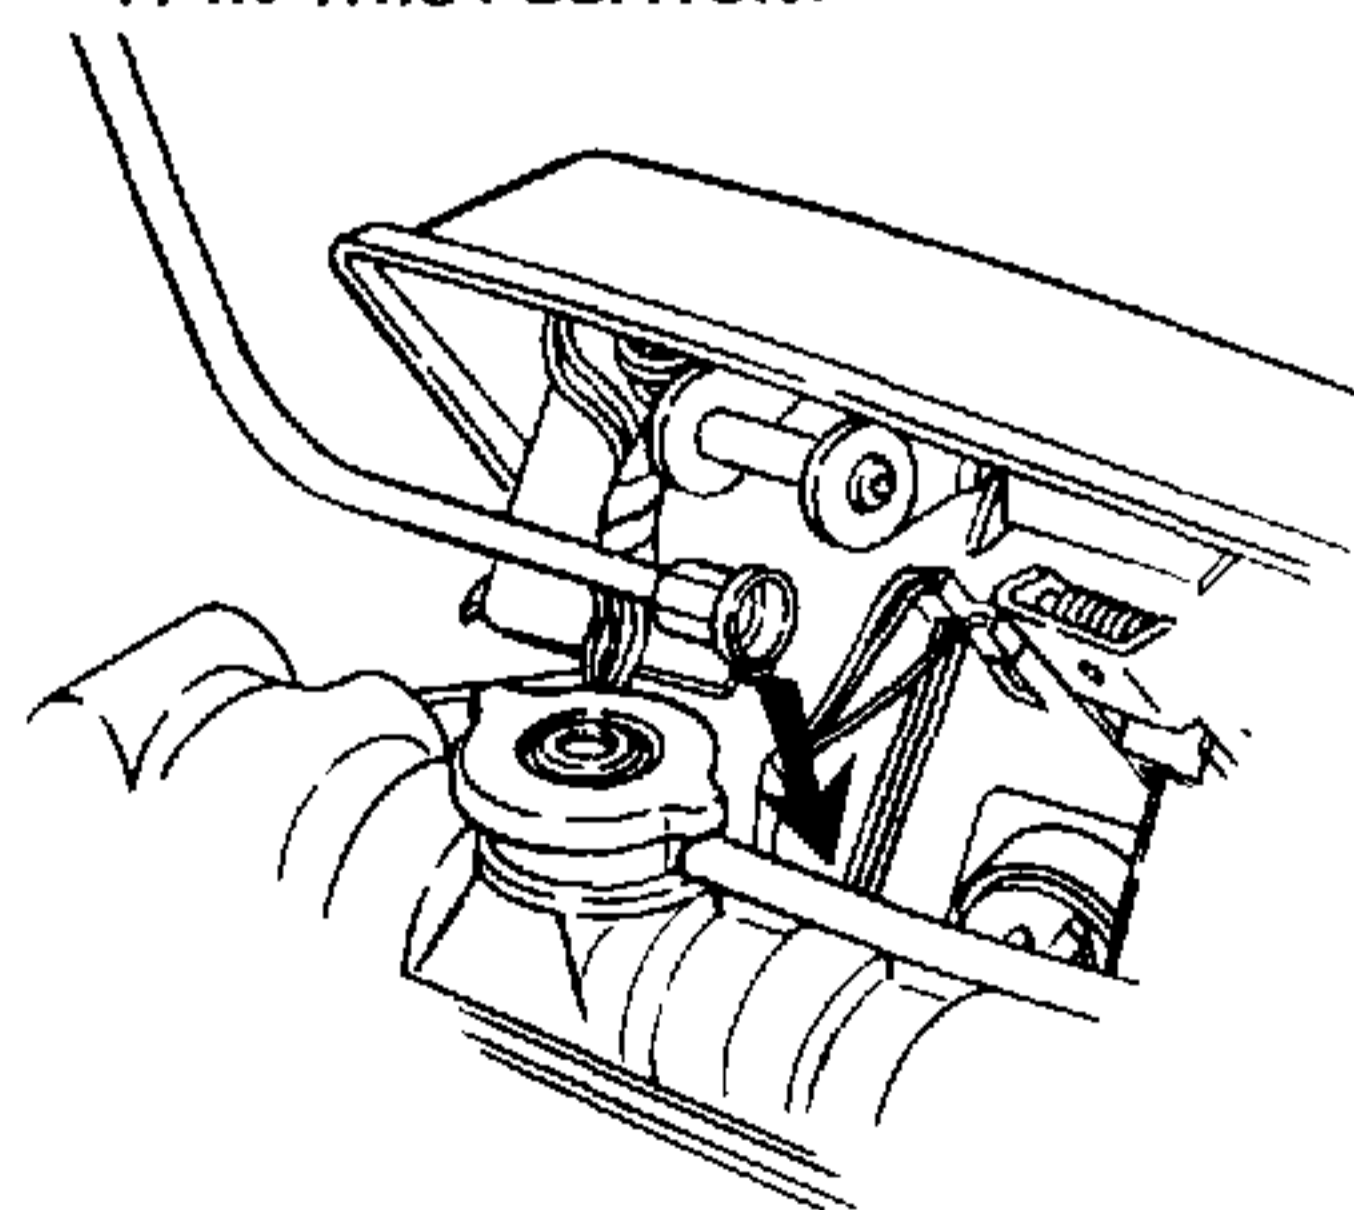
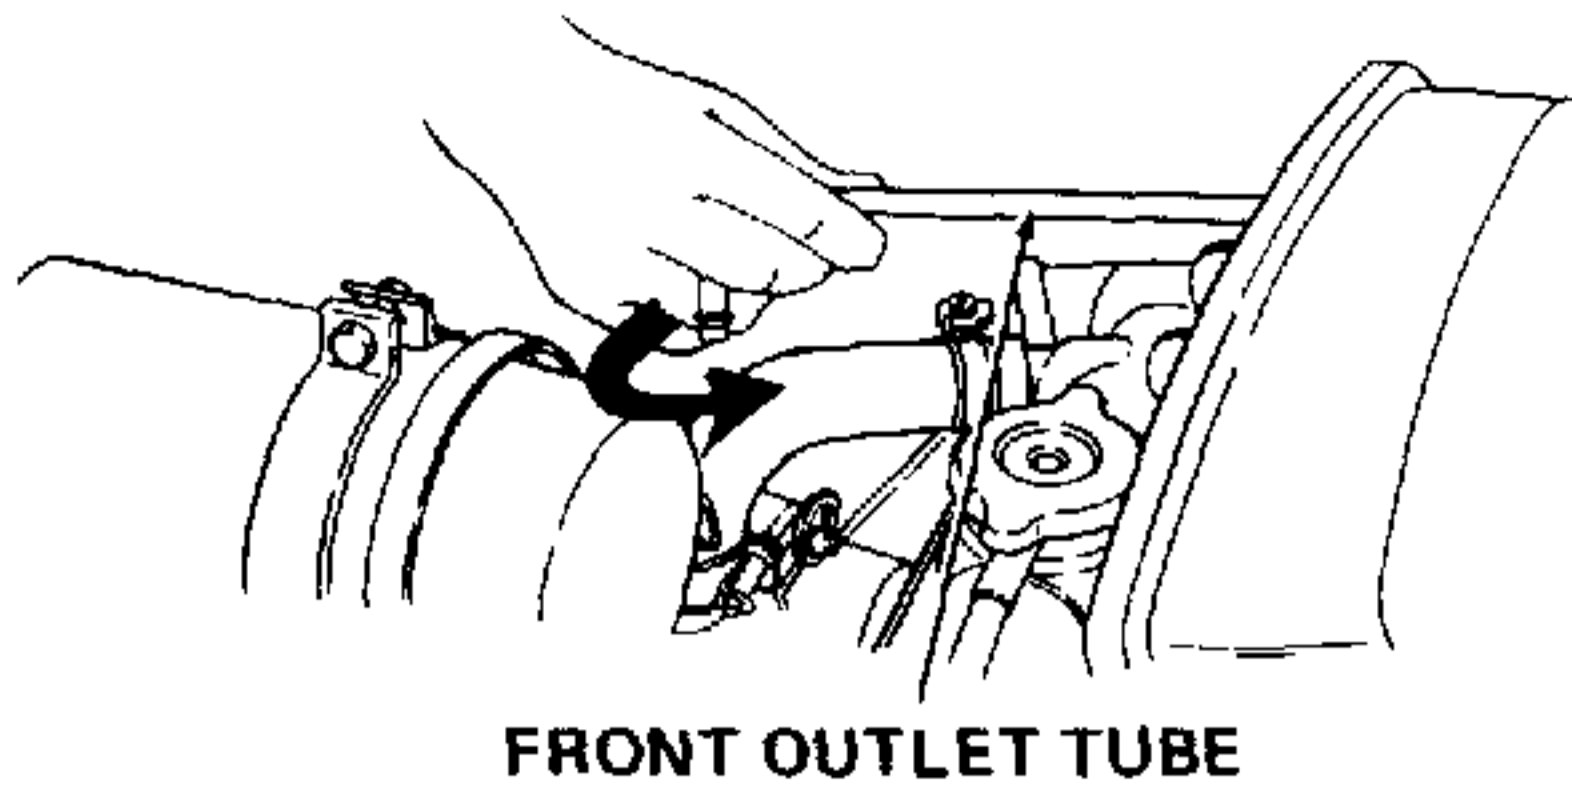

Figure 7-79. Placement of Front Outlet Tube (Models 1782 and 2182 Only).
Figure 7-80. Installation of Front Outlet Tube (Models 1782 and 2182 Only).
- a. Install an O-ring (8) on the end of the outlet tube.
- c. Position front outlet tube as shown in Figure 7-79 and manipulate the tube as shown in Figure 7-80 until threaded female end of tube passes through lower right side of pedestal near hydraulic T-fitting.